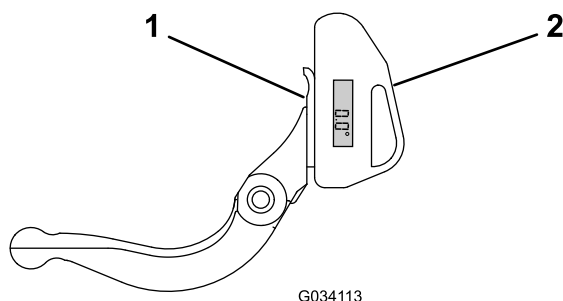

Figure 24
- Place the angle indicator on the bottom side of the bedknife as shown in Figure 24.